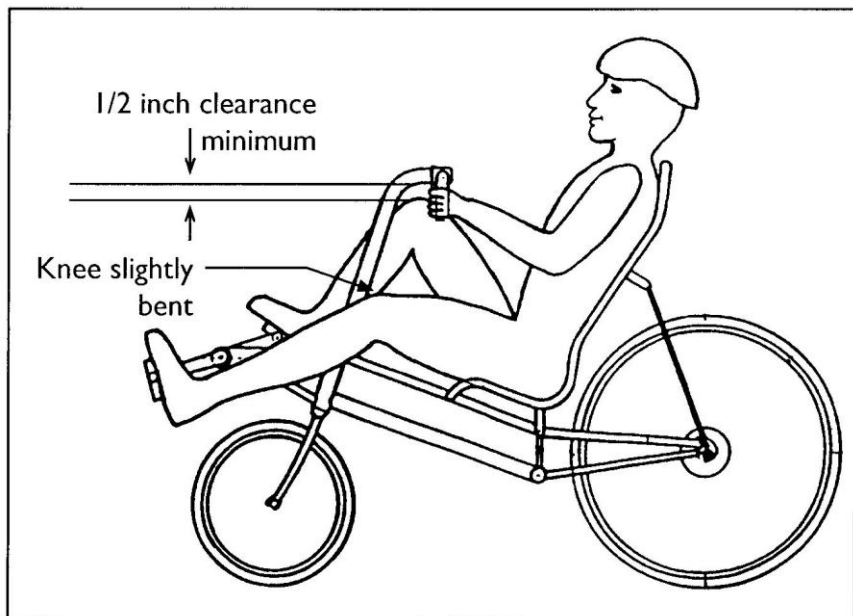

FIG. 2-1
- B)** Slide the cranks in or out until your legs are slightly bent at their furthest extension. (See Fig. 2-1). It's better to have the cranks too close when making the initial adjustment than too far away.
- B)** Adjust the handlebars up or down so that there is approximately 2 inches (for V-bars) or 1/2 inch (for drop bars) of clearance between your knees and the handlebars (see Fig. 2-1).